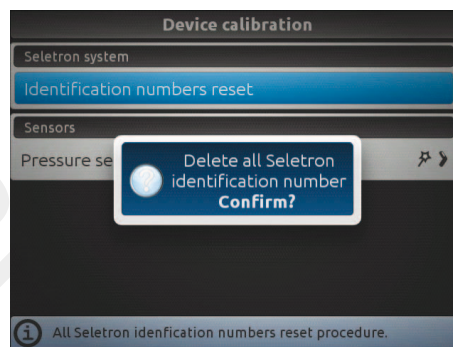

Fig. 133
- The message in Fig. 133 is displayed: confirm reset by pressing **OK** again.